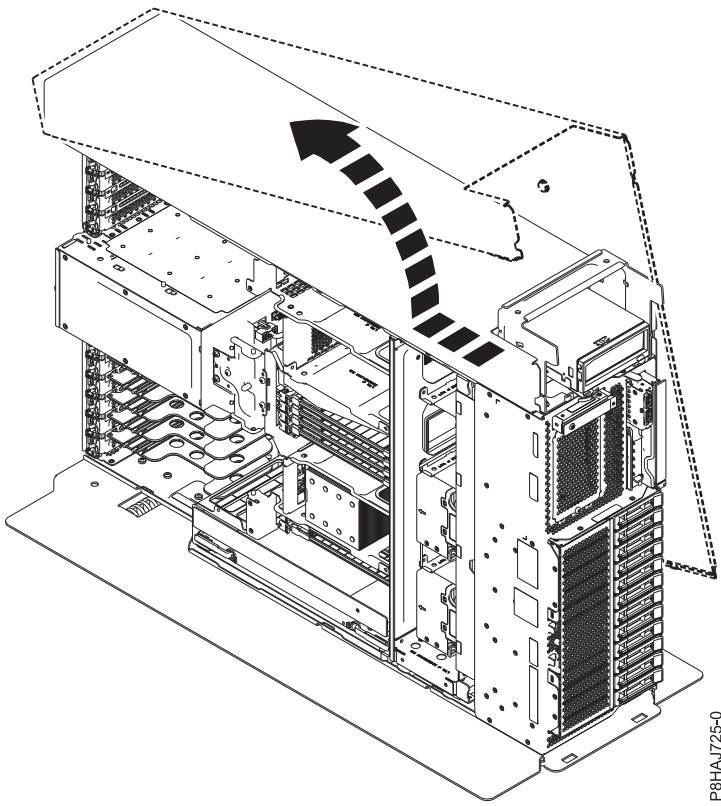

Figure 79. Removing the 8286-41A side cover
5. Slide the side cover off of the system in the direction that is shown in Figure 79 on page 99.